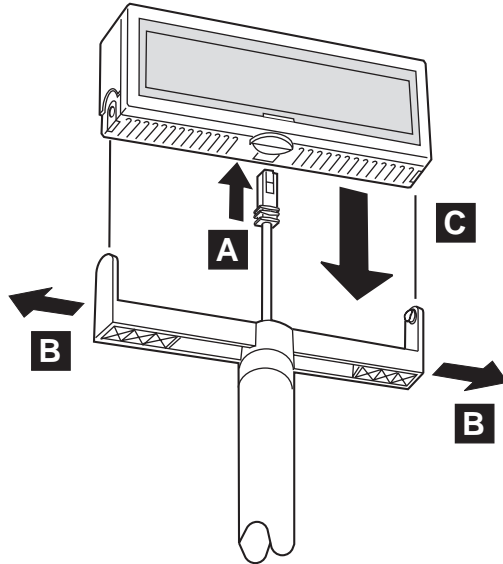

Figure 60. Placement of the display on the arm
3. Connect the display cable ( **A** in Figure 60 on page 66) to the display unit. Spread the arms on the display ( **B** ) slightly, and install the display unit ( **C** ).